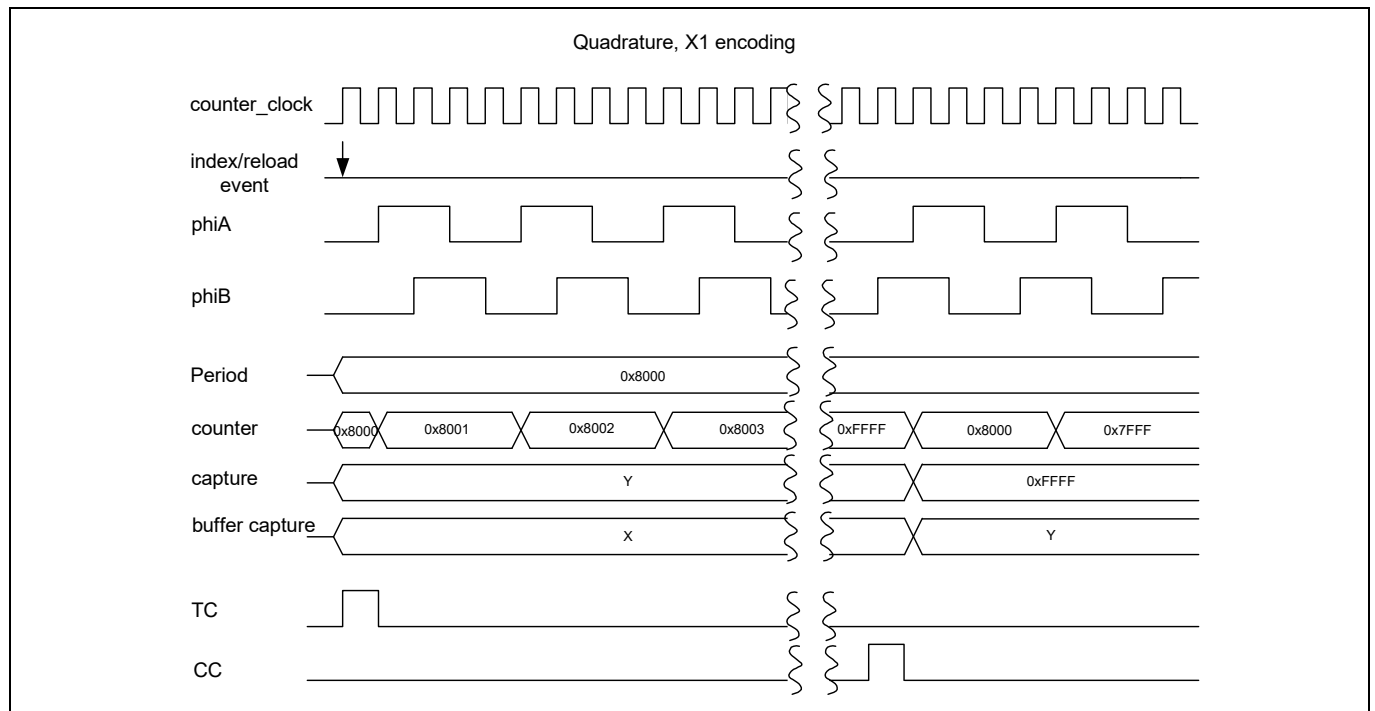

Figure 21-67. Timing diagram for Quadrature Mode, X1 Encoding
- Quadrature index signal: This is connected to the reload signal as a hardware input. This event generates a TC condition, as shown in Figure 21-67.
- The DOWN bit field of counter status (TCPWM_CNTx_STATUS) register can be read to determine the current counting direction. Value '0' indicates a previous increment operation and value '1' indicates previous decrement operation. Figure 21-67 illustrates quadrature behavior in the X1 encoding mode.